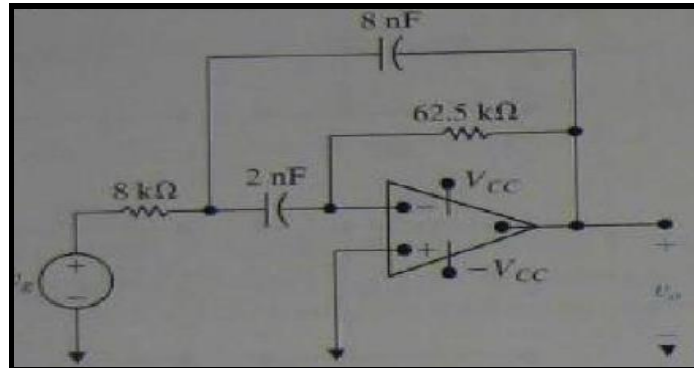

Figure 3: The inverting Amplifier
- The transfer function of the inverting amplifier shown in the Figure 3 was derived and the poles, zeros and plot of magnitude and phase of it were found: